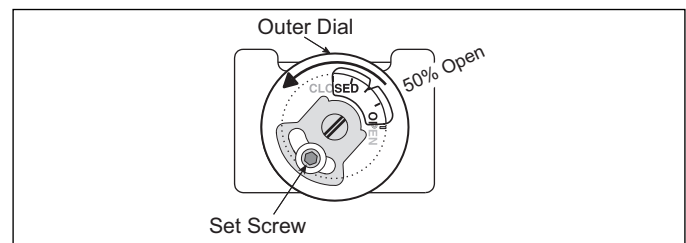

Figure 4.3. Manual Gas Butterfly 50% Open
3. Set the manual gas valve at each burner to 50% open. See Figure 4.3. If using an adjustable limiting orifice valve, set it at 5 full 360° rotations up from the bottom.